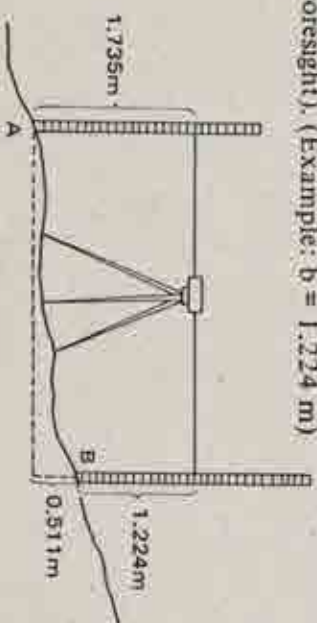

Fig. 5
1. HEIGHT DIFFERENCE (Fig. 5)
Measure by placing the instrument halfway between points A and B (Fig. 5). In this case, no error will occur even if there is some deviation in the horizontal line of sight. The instrument can be centred conveniently by using the stadia method described below.